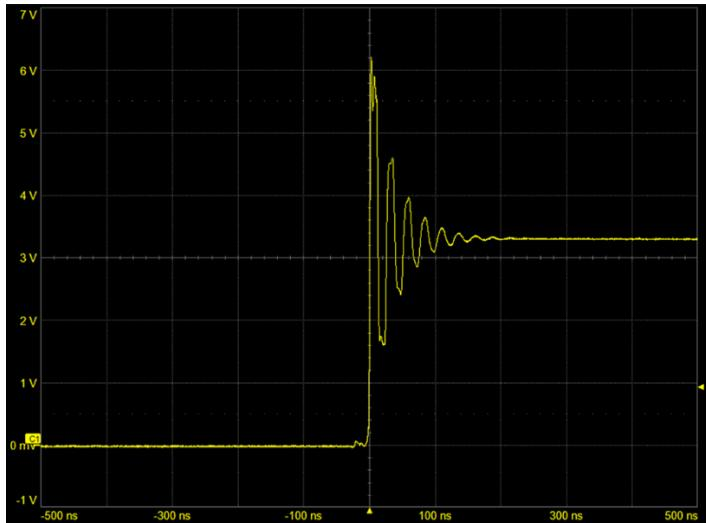

Figure 3.10 Measured voltage on a receiver showing the ringing noise due to multiple reflections on the interconnect. This is a type of self-aggression noise.
toward the TX. The reflections are scaled versions of the signal, generated, propagating in the opposite direction, that can in turn reflect and bounce around the interconnect and interfere with the incident signal at the receiver (RX). This is a form of self-aggression noise. **Figure 3.10** shows an example of ringing noise at the RX due to excessive self-aggression noise in the form of reflections.